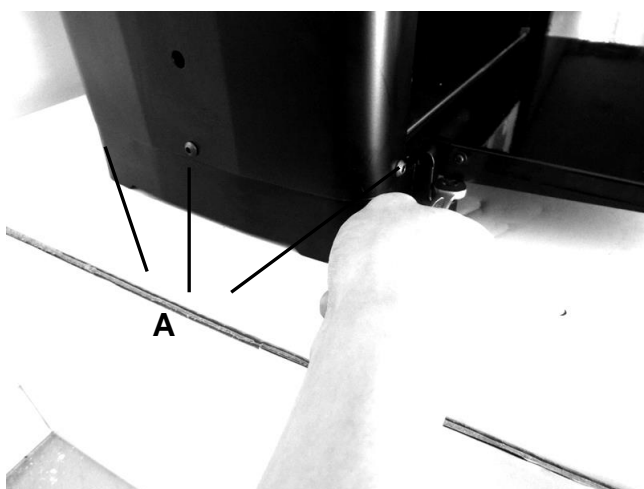

FIG 10
3. On the left side panel, remove the 3 socket head screws (A) located around the bottom edge and remove the side panel to expose the gearbox cover. SEE FIG 10.